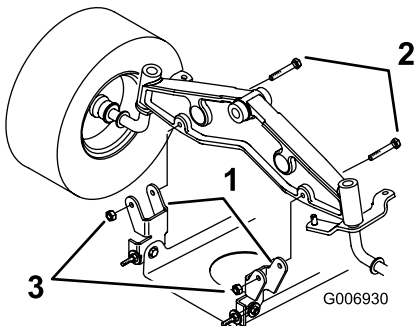

Figure 42
7. Install the mower pivot mount brackets onto the front axle with the bolts and locknuts (Figure 42).